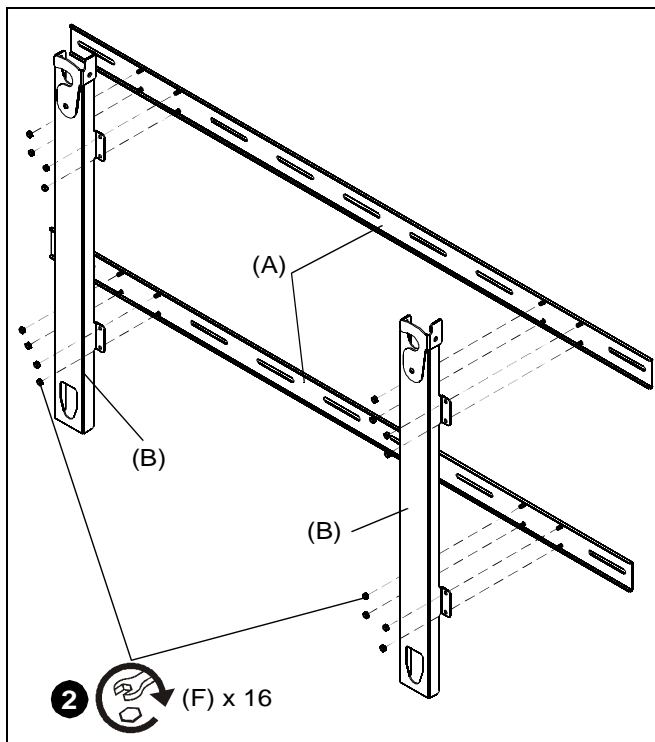

Figure 2
2. Attach two vertical brackets (B) to two horizontal brackets (A) using sixteen 5/16" nylon lock nuts (F). (See Figure 2)